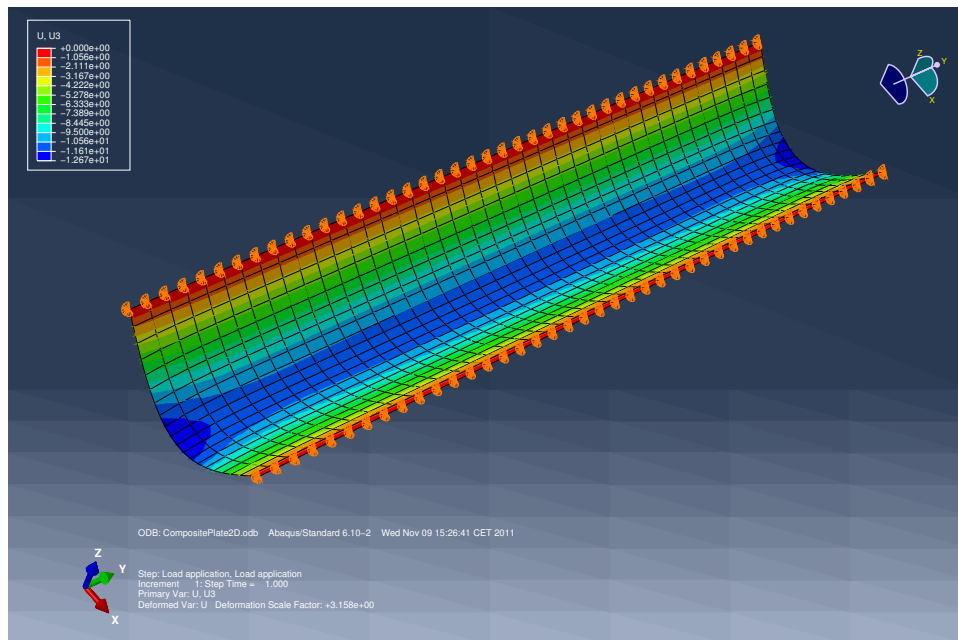

Figure 4 • 2D computation (shell elements)
- Compare the results obtained with the results of the finite element calculation (shell elements) given in Figure 4. Comment on and interpret any differences.